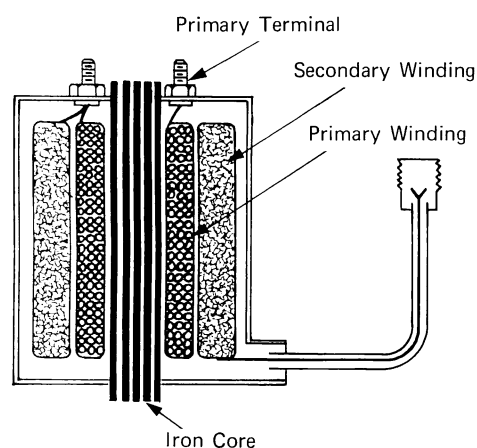

Fig. 21-2 Cross section of MC coil showing core, primary, and secondary windings
**Ignition Coil.** The coil is composed of a primary winding of relatively heavy copper wire (0.5 to 1.0 mm) wound around a laminated soft iron core, and a secondary winding with many more turns of fine copper wire (0.05 to 0.1 mm) wound over the primary winding (Fig. 21-2).